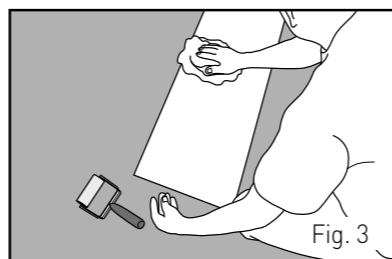

Fig. 3
- It is important to clean all of the panel's smooth surface (glue side) using a tack rag before each gluing session (see Fig. 3).